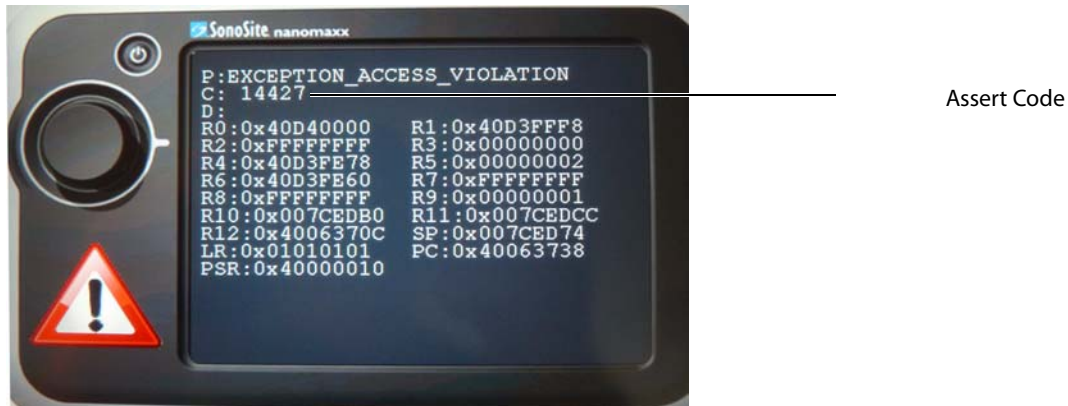

Figure 3.1 Maintenance Screen with Assert Code
- 1 Record the Assert Code. The Assert Code is a four or five digit number shown on the C: line of the Maintenance Screen. A typical Maintenance Screen with an Assert Code is shown in Figure 3.1.